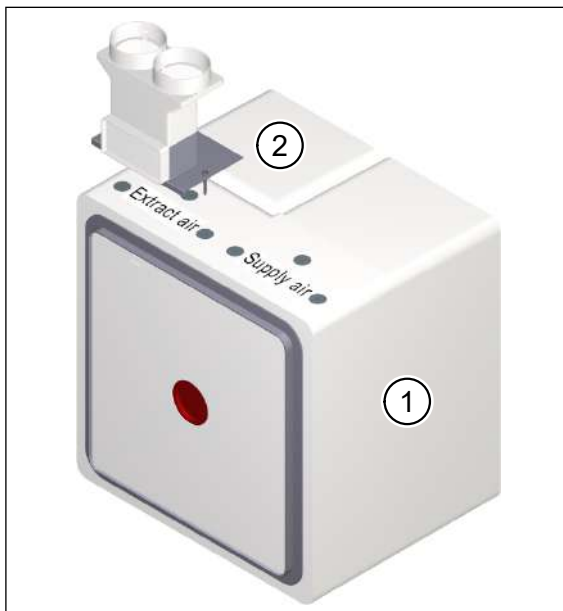
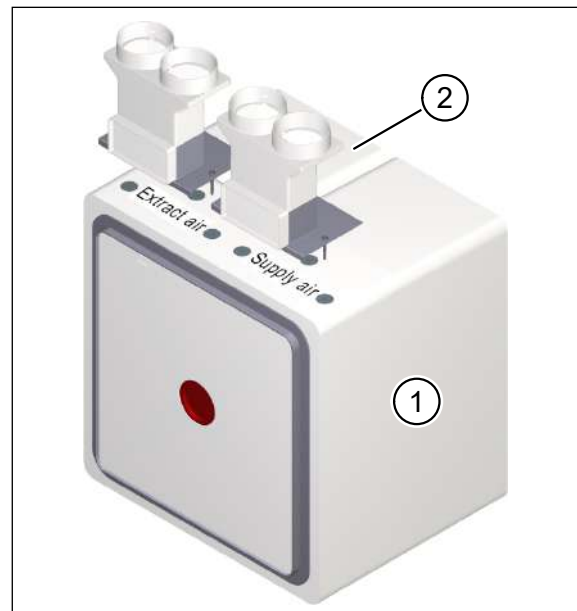

Fig. 1: Installation kit M-WRG-M/MB-FR75/1 with optional filler piece M-WRG-M/Fü
Fig. 2: Installation kit M-WRG-M/MB-FR75/2 with optional filler piece M-WRG-M/Fü
- M-WRG-M/MB-FR75/1 with one 75 mm flexible pipe connection for extract air or supply air (see Fig. 1)
- M-WRG-M/MB-FR75/2 with two 75 mm flexible pipe connections for extract air and supply air (see Fig. 2)
In new builds, if a complete wall aperture is planned for the installation kit or if a complete wall breakthrough is planned for a retrofit, the optional filler piece M-WRG-M/Fü (item 2 in Fig. 1 and Fig. 2) can be used to pack out the wall.